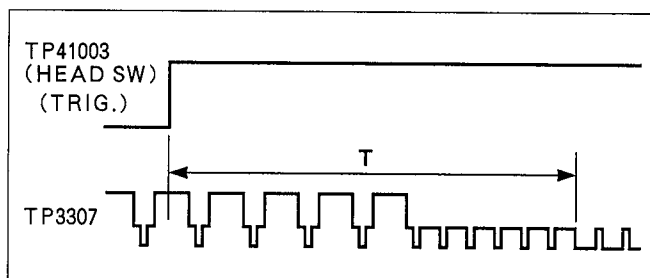

Figure E1
3. Adjust VR2001 so that "T" becomes 7.5H ± 0.25H as shown in Figure E1.